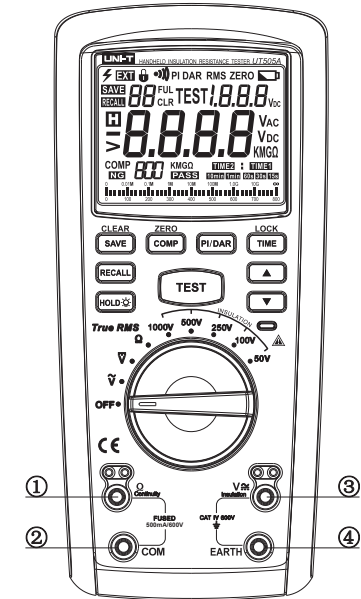

Figure 1
V. External structure (See Figure 1)